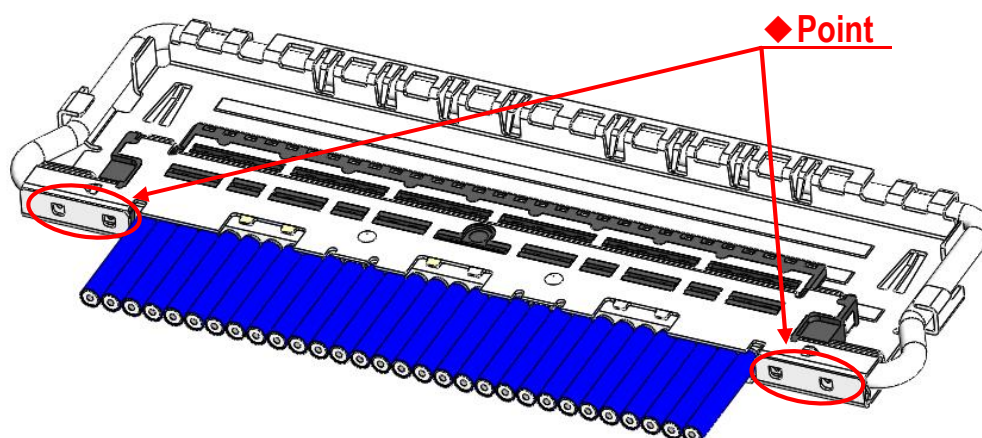

Fig.14 Soldering of Shell-A and Shell-B
- ⑤ Soldering shell-A and shell-B with the soldering iron at all designated points is recommended. (Fig.14 ◆ Point)